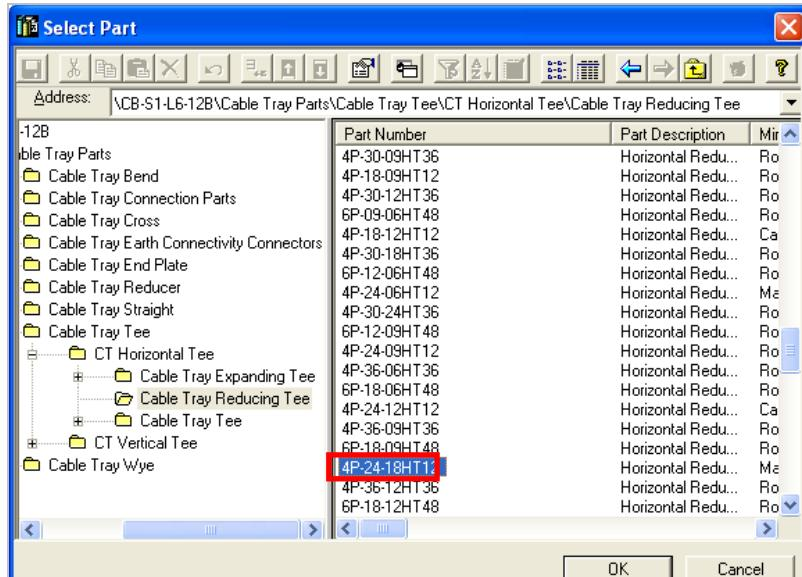

Figure 6: Select Part Dialog Box
15. The **Select Part** dialog box appears. Expand the node **CB-S1-L6-12B\ Cable Tray Parts\ Cable Tray Tee\ CT Horizontal Tee\ Cable Tray Reducing Tee** in the left pane of the **Select Part** dialog box. Select the **Part Number 4P-24-18HT12** from the right pane as shown in Figure 6.